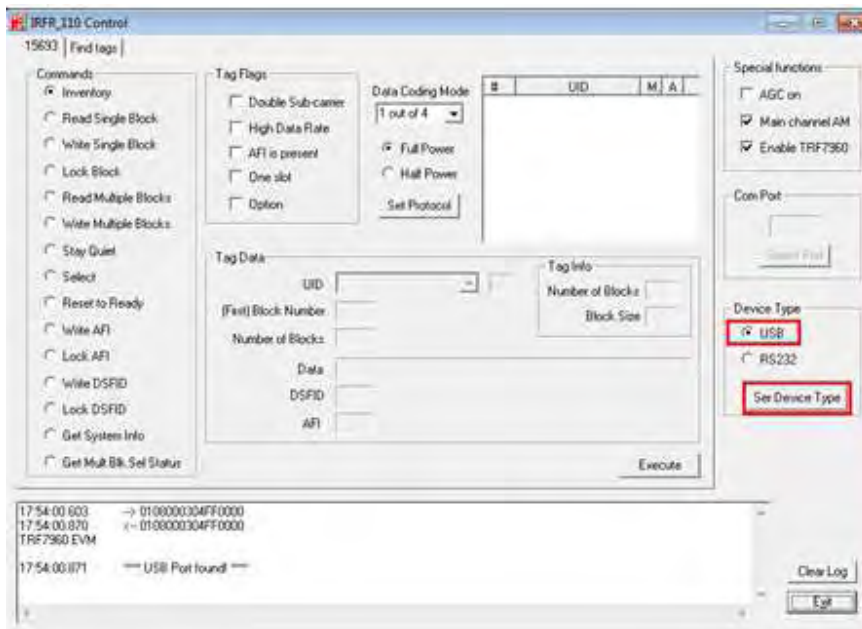

Figure 3-25: IRFR – Device Type
Step 4: Select **USB** and click the “Ser Device Type” button (Figure 3-25).